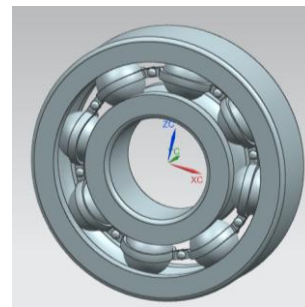

Figure 6.3
f) We enter the **Pattern Component**. Select the rivet on the **Select Component**, the vector perpendicular to the wallpaper on the **Specify Vector**, and the circle of the wallpaper on the **Specify Point**, type **Count** to 8, type 360/8 to **Pitch Angle**, and click **Ok**. The rivets on the bearing also take their place. As a result, the bearing is formed in the fully assembled view in Figure 6.3.